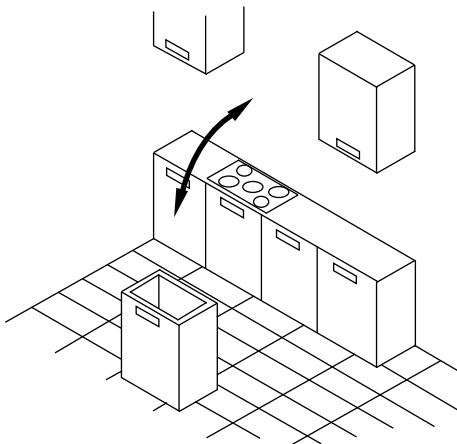

Fig 4
1. It is recommended to install the hood with the cupboard on the floor (Fig 4).